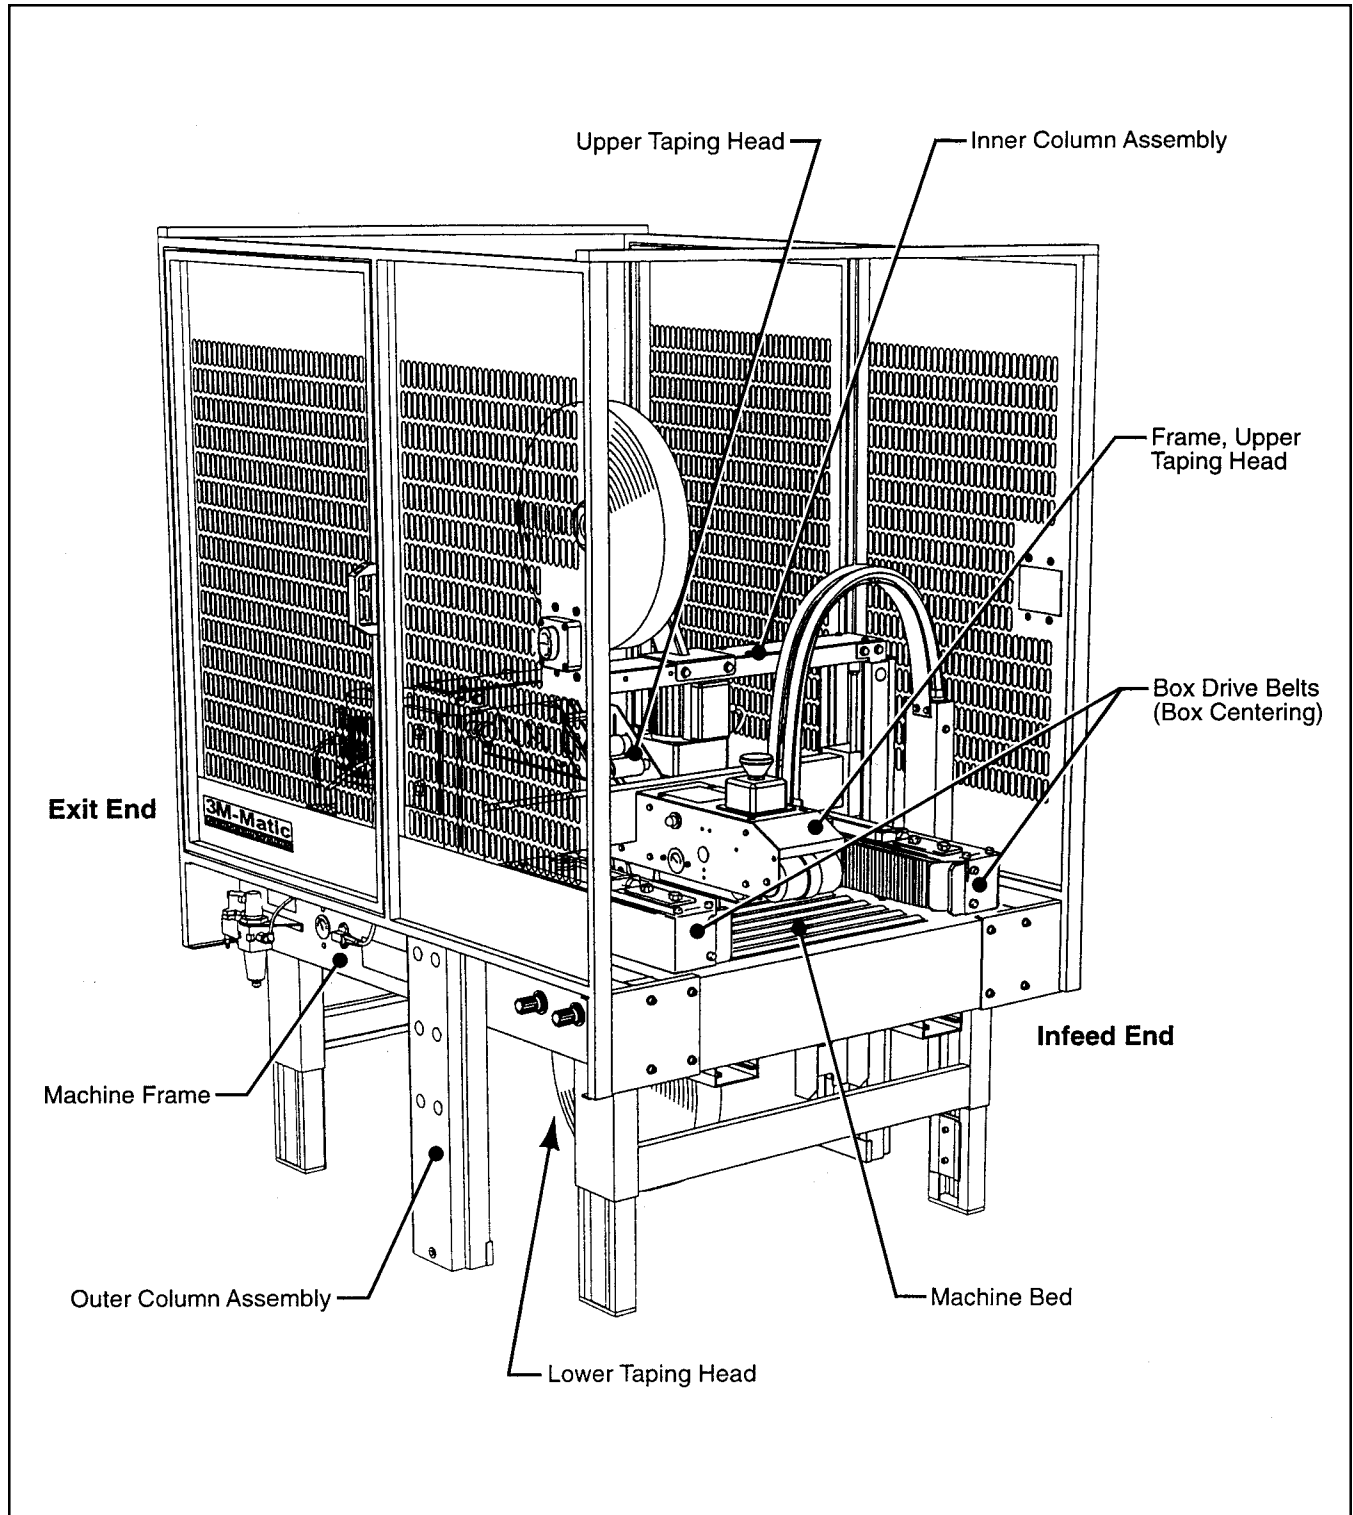

Figure 3-1 – Case Sealer Components
The following instructions are presented in **the order recommended** for setting up and installing the case sealer. Following them step by step will result in an installation in your production line that best utilizes the many features built into the case sealer. Refer to Figures 3-1 and 3-2 to identify the various components of the case sealer.
Refer to Figure 3-1 and 3-2 to acquaint yourself with the various components and controls of the case sealer. Also see Figures 3-1 and 3-2 in Section II for taping head components.
8. Both the upper and lower taping heads utilize extremely sharp knife blades. The blades are located under the orange blade guard which has the "WARNING – SHARP KNIFE" label. Before loading tape, refer to Figures 3-1 and 3-2 in Section II to identify the blade location. Keep hands out of these areas except as necessary to service the taping heads.